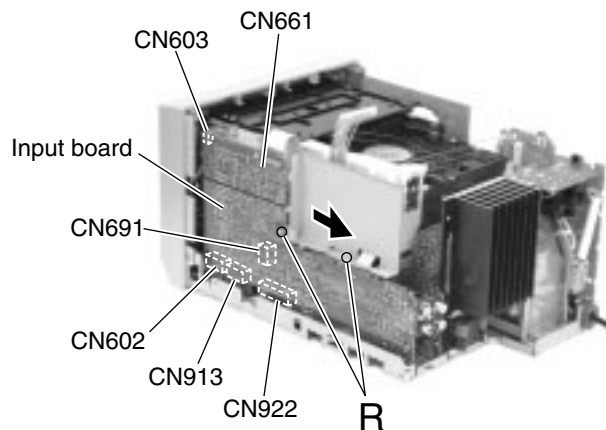

Fig.18
**■ Removing the Input board (See Fig.18)**